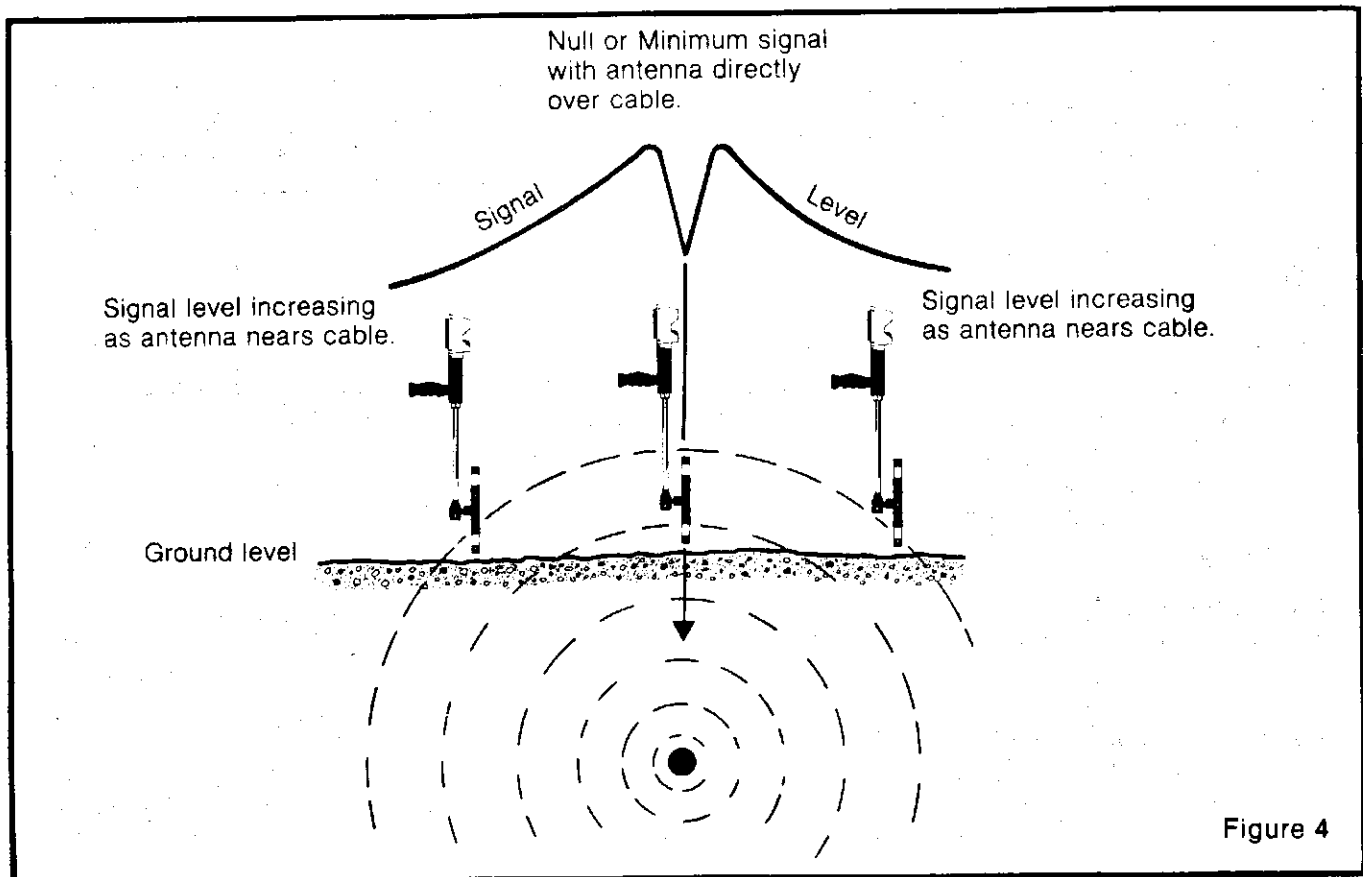

Figure 4
**NULL** — See Fig. 4. With the antenna vertical to the ground (parallel to the extension arm), the meter reading will increase as the antenna approaches the cable. Directly over the cable, a loss of signal will be found and the meter will decrease to a zero or minimum level. The signal will return to a high level and then start falling off as the antenna leaves the exact center of the cable. On both sides of the cable, a high meter reading is available, but a loss of signal occurs when the antenna is directly over the cable.
With the receiving antenna moved to the vertical position (see Fig. 4), adjust the Sensitivity control for an on-scale meter reading. Walk in the direction the meter reading increases. As the antenna crosses the cable, the meter will fall to some lower reading and then will return to a higher level on the other side of the cable. The center of the cable will be directly below the null or minimum meter reading.
When the transmitter is set to Inductive, the receiver can also pick up the transmitter if you are close to it. On low power, the receiver should be at least 20 feet away from the transmitter before a location is made. If a higher power is used, move farther away. On high power you should be at least 50 feet from the transmitter. The receiver is used in either the null or peak method to trace your line. See Fig. 4, and 5.